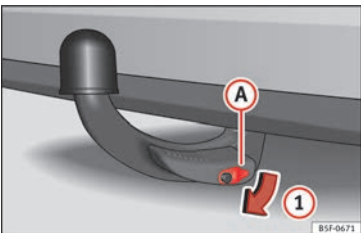

Fig. 216 Removing the lock cover.
- Remove cover **A** from the lock in the direction of arrow **1** » **Fig. 216**.